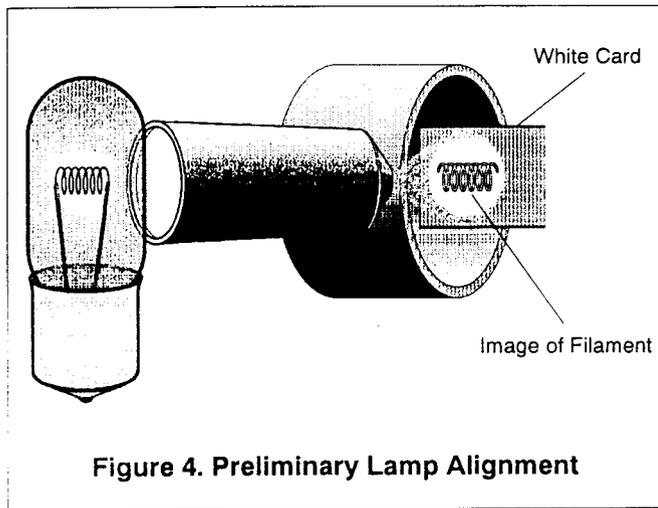

Figure 4. Preliminary Lamp Alignment
(D) For stereo installations, remove the mono solar cell and place a white card about an inch away from the sound lens. The image of the exciter lamp filament should look like *Figure 4*. If necessary, raise or lower the lamp and move it in and out until the filament is centered in the spot of light. This will insure that the slit is evenly illuminated, thereby producing the least distortion in playback.